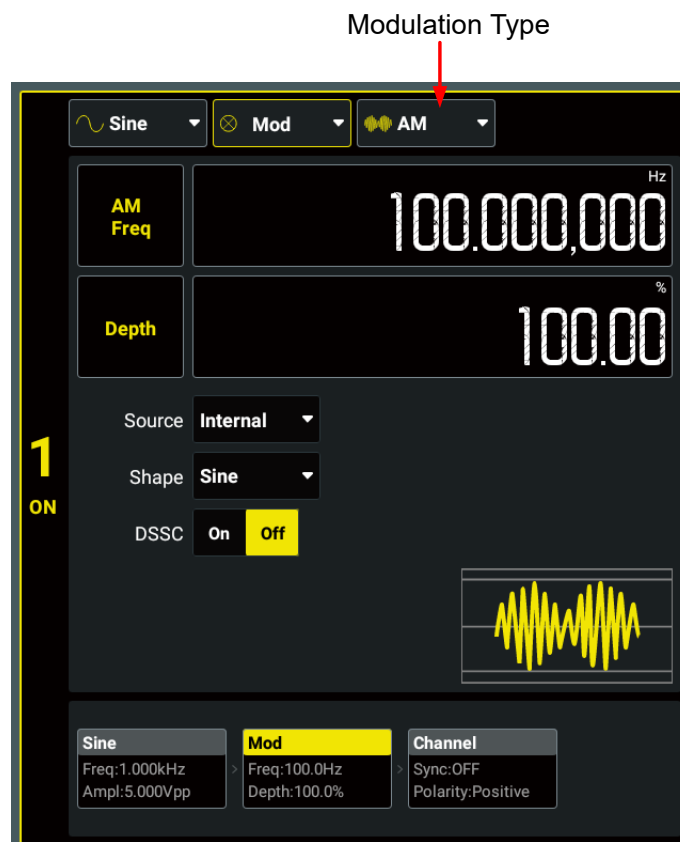

Figure 6.1 Modulation Setting Interface
6.1 Amplitude Modulation (AM)
In Amplitude Modulation (AM), a modulated waveform consists of a carrier waveform and a modulating waveform. The amplitude of the carrier waveform is varied by the instantaneous voltage of the modulating waveform. In the "Modulation Setting Interface" (Figure 6.1), click or tap the "Modulation Type" drop-down button to select "AM" and set its parameters.
6.2 Frequency Modulation (FM)
In Frequency Modulation (FM), a modulated waveform consists of a carrier waveform and a modulating waveform. The frequency of the carrier waveform is varied by the instantaneous voltage of the modulating waveform. In the "Modulation Setting Interface" (Figure 6.1), click or tap the "Modulation Type" drop-down button to select "FM" and set its parameters.
6.3 Phase Modulation (PM)
In Phase Modulation (PM), a modulated waveform consists of a carrier waveform and a modulating waveform. The phase of the carrier waveform is varied by the instantaneous voltage of the modulating waveform. In the "Modulation Setting Interface" (*Figure 6.1*), click or tap the "Modulation Type" drop-down button to select "PM" and set its parameters.
With Amplitude Shift Keying (ASK), you can configure the instrument to "shift" its output amplitude between two preset values (called the "carrier amplitude" and the "modulation amplitude"). In the "Modulation Setting Interface" (Figure 6.1), click or tap the "Modulation Type" drop-down button to select "ASK" and set its parameters.